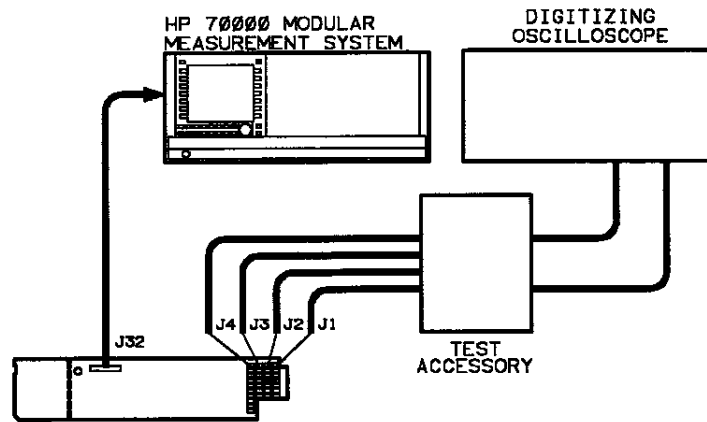

Figure 4-1. Pulse Parameters Test Setup
2. Connect the equipment as shown in Figure 4-1. Connect to J1, J2, J3, J4 if using an external driver card. Connect to cable (HP part number 70611-60004) if using an HP 70611A, Option 001, 70612A,C or 70613A,C.